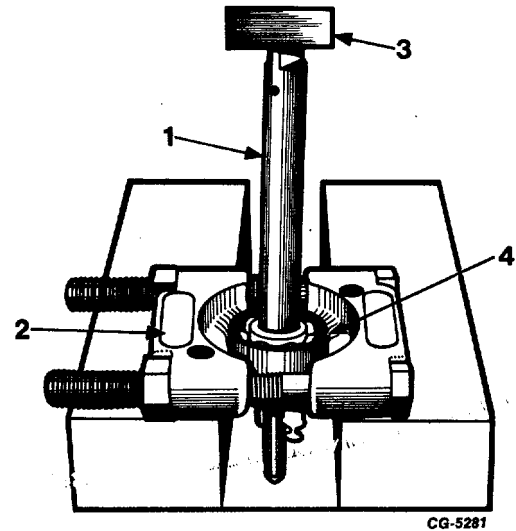

Fig. 40 Removing Tachometer Drive Bearing Using SE-1336-16 Bearing Puller
- a. Position bearing puller attachment SE-1336-16 (Owatonna No. 950 or equivalent) under bearing (Figure 40).